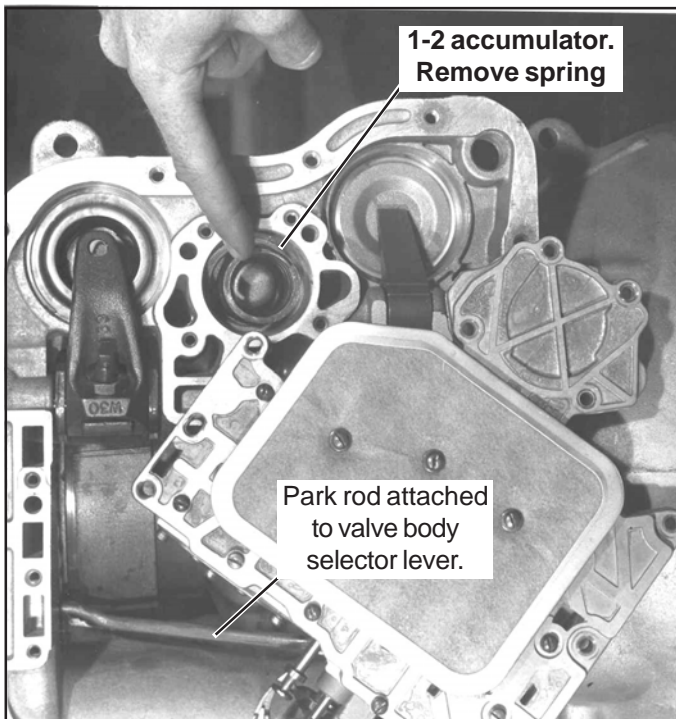

Figure 3
**STEP 3.** Remove the valve body by removing the ten bolts with a 7/16" wrench or socket. There is a spring between the valve body and the case so remove the last bolt slowly. This will also reduce the amount of oil splatter as the valve body is removed. Pull valve body down and forward to disengage park rod from back of case. It may be necessary to rotate driveshaft slightly to disengage the rod. There will be a spring (1-2 accumulator spring) between the valve body and case (See Fig. 3), remove and discard it. Place valve body in oil pan and set them on work bench.